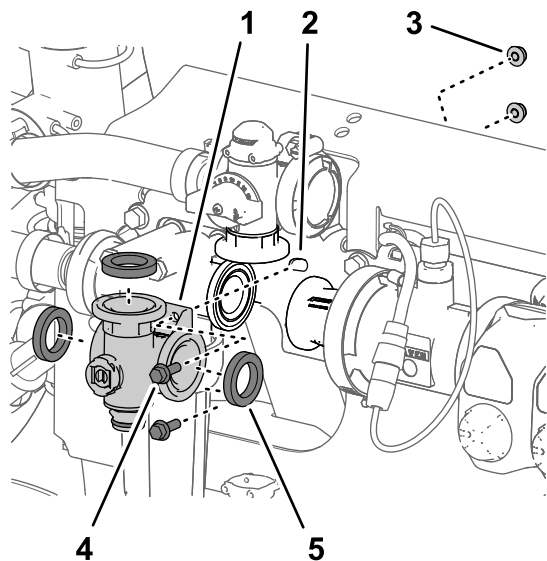

Figure 109
3. Remove the 2 flange-head bolts (1/4 x 3/4 inch) and 2 flange locknuts (1/4 inch) that secure the agitation-valve manifold to the valve support (Figure 109).
4. Remove the agitation-valve manifold and gaskets from the machine (Figure 109).